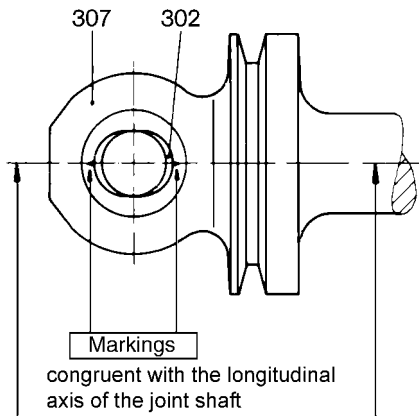

Figure 10: Pressing in the joint collar
- Attach the bearing cover (131) with the seal (132) with the hexagon screws (139) on the bearing bracket (110).
- Insert the feather key (101) in the drive shaft (118) and secure it at the end with two puncher blows.
- Drive the sleeve for the joint bolt (303) halfway into the rotor (401) with the brass spike.
- Press the joint bush (302) into the joint shaft (307) in such a way that the longitudinal axis of the oval boring (marked by 2 notches) aligns with the longitudinal axis of the joint shaft and that the joint collar protrudes evenly on both sides of the joint shaft (see figure 10). Joint bush (302) not available with: